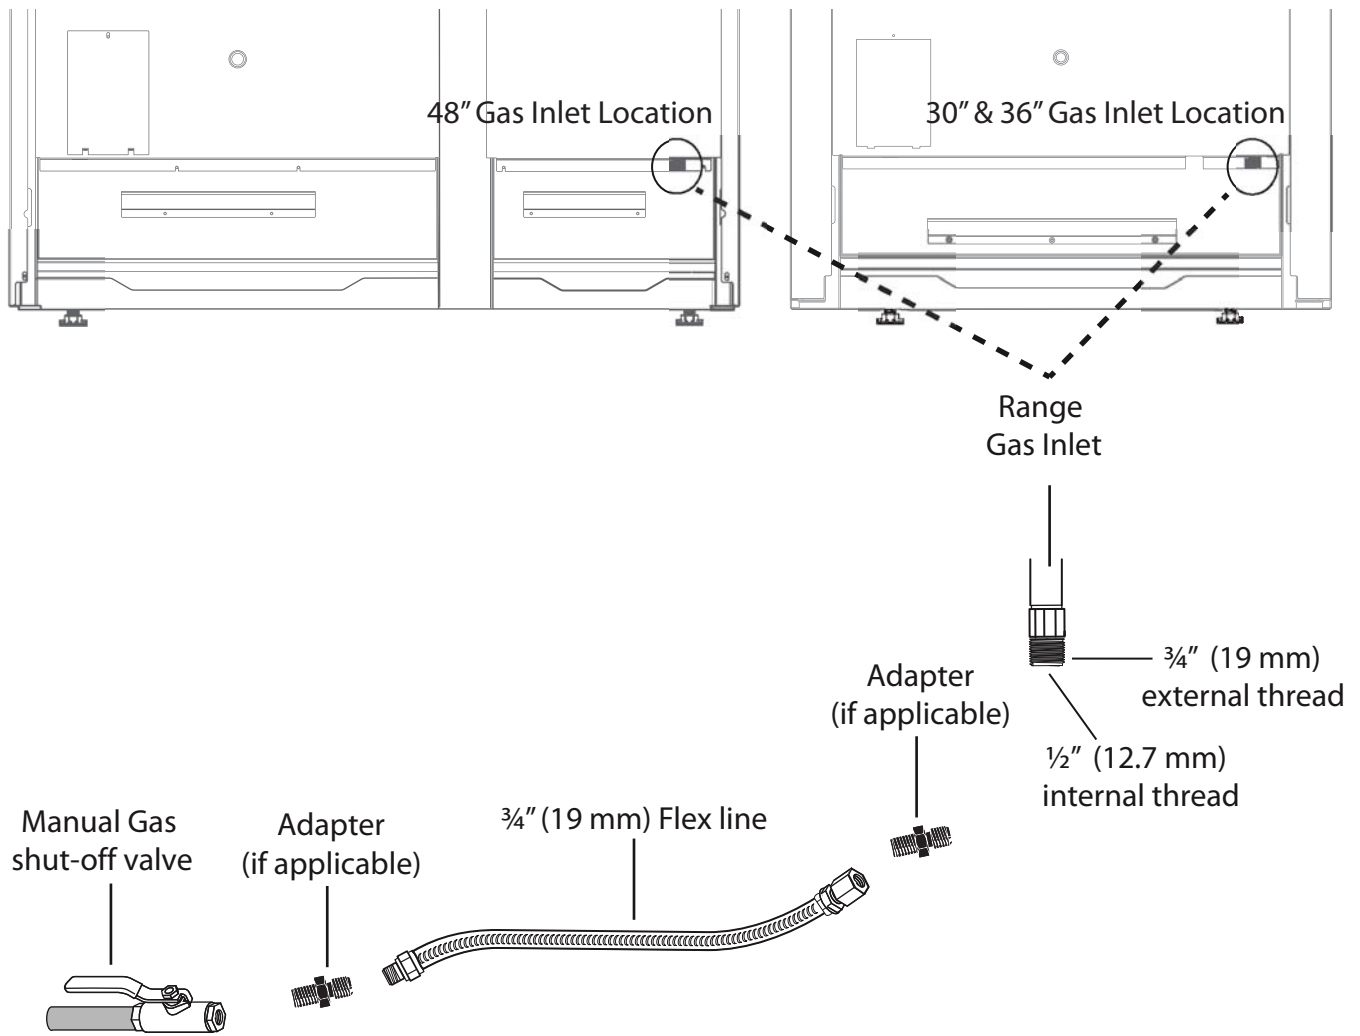

Figure 10: Gas Supply Connection
2. Use a ¾" (19 mm) flex line to connect between the gas supply and the appliance gas inlet. The gas supply line connection is located at the lower right portion of all range models (see *Figure 10*). The appliance gas inlet connection is ½" (12.7 mm) NPT.